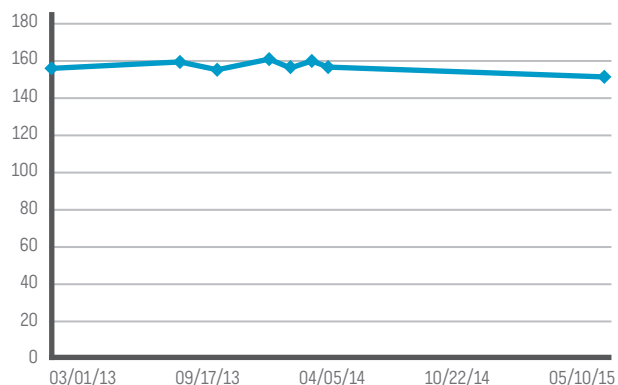

Figure 5. Normalized permeate flow of the second stage of the RO system after Vitec 7000 was put online
- 2 The second stage of the RO system showed less than a 5% loss of permeate flow over the same 2 years (Figure 5).